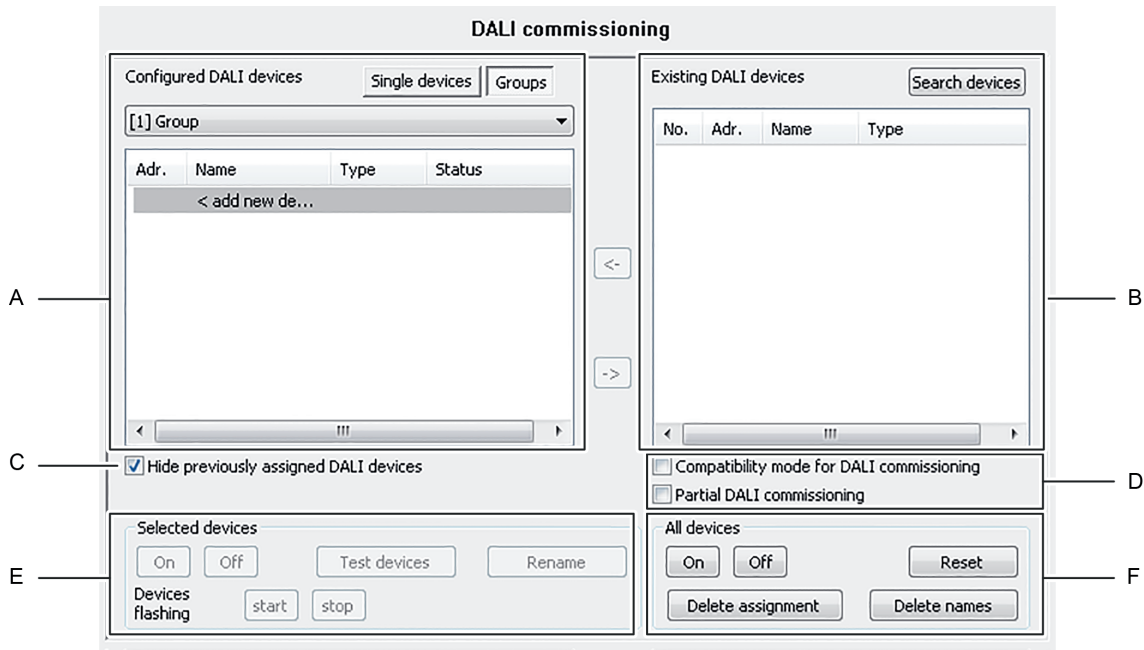

Figure 63: Panes of the commissioning environment
The commissioning environment of the plug-in is divided up into two panes. The right-hand pane lists the operating devices found in the DALI system. The left-hand pane displays the created groups. The assignment of the DALI devices to the programmed groups or single devices also takes place there.(Figure 63).
For special cases, it is possible to assign operating devices for group control to more than just one DALI group. In the standard case, assignment of a DALI operating device is only possible in one device. This makes device assignment clear, and the unique assignment means that there are no group overlaps and, as a result, no influencing of configuration and feedback values. If necessary, multiple group assignment can be enabled as an alternative. To do this, the checkbox "Hide previously assigned DALI devices" (C) must be deselected in the Commissioning dialog of the plug-in.(Figure 63). This means that it is then possible to assign DALI operating devices to more than just one group during online commissioning.